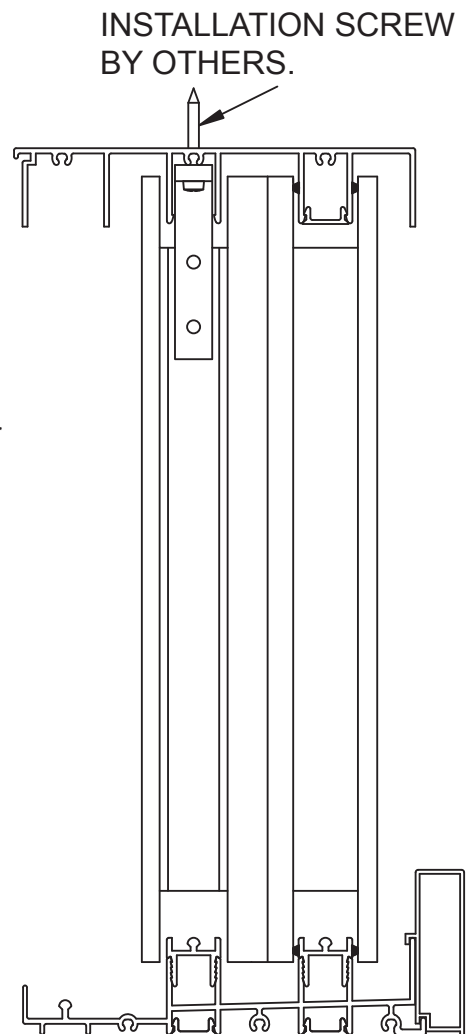

Figure 17a
8. Once the cover that will be underneath the fixed panel is installed, slide the panel back into place and anchor the bracket thru the header and into the substrate with the same installation screws being used to anchor the main frame. (See Figure 17a)